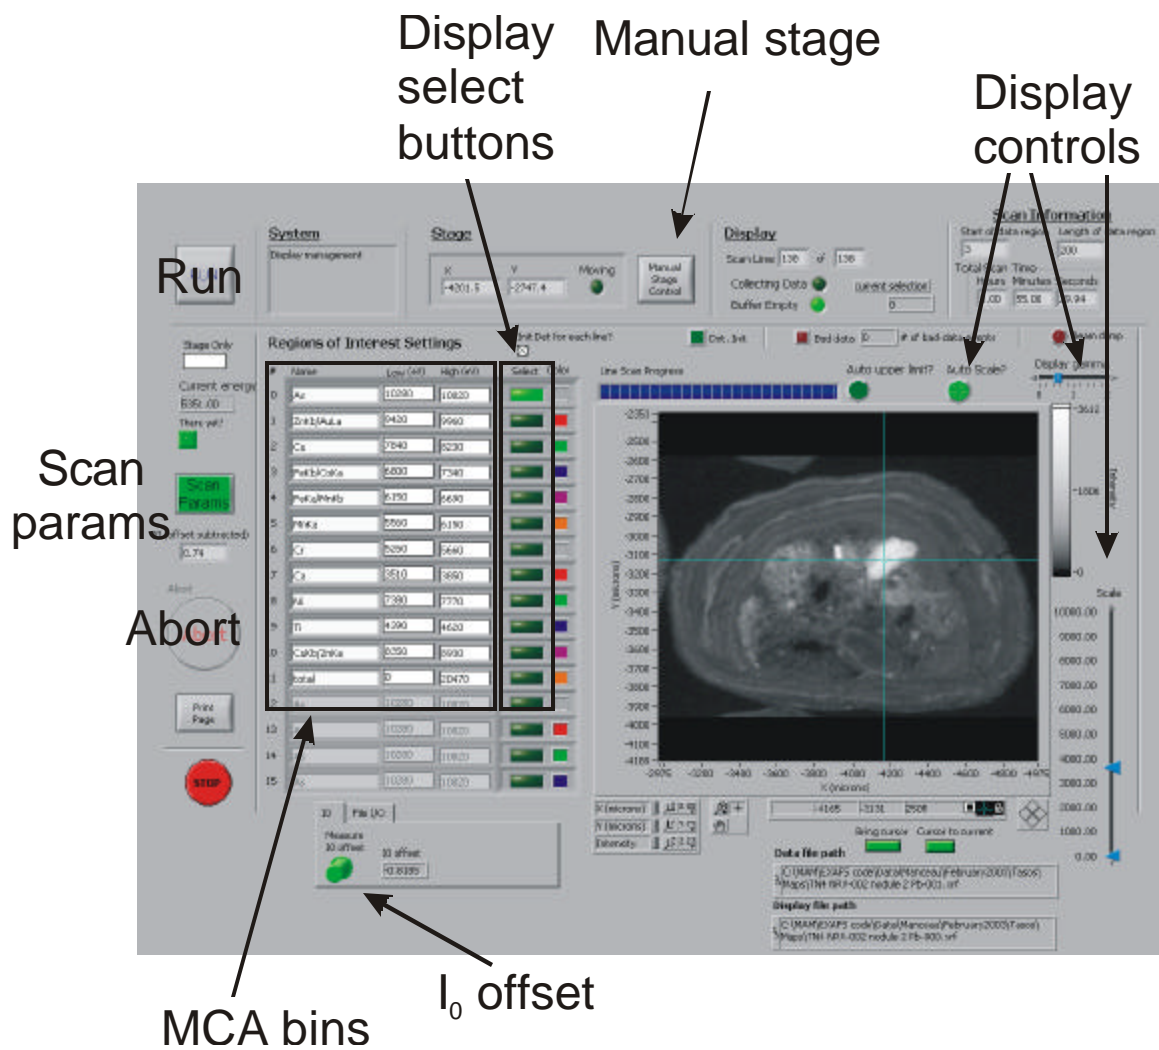

Figure 2. The XY mapping program with the important controls and indicators shown.
3. Define your MCA bins (same as Regions of Interest). This is done by entering the appropriate data into the **Regions of Interest Settings** controls (called out in Figure 2 as MCA Bins). Unlike 10.3.1, this system only collects ROIs, not complete spectra at each pixel, so if you didn't ask for it, you can't get it from the data. For each ROI, you can enter a name, which gets entered into the file header, and the upper and lower limits for the bin, in eV. These numbers are 10 times the channel numbers you'd pick out of the MCA Utility. For most users, most of the time, the default ROIs are good enough. If you want to add a bin, simply fill in one of the grayed-out ones at the end, *then stop the program (red STOP button) and restart it*. The change won't 'take' unless you start and stop. You don't lose any information by doing that. You can change the data for an existing bin without stopping and starting.